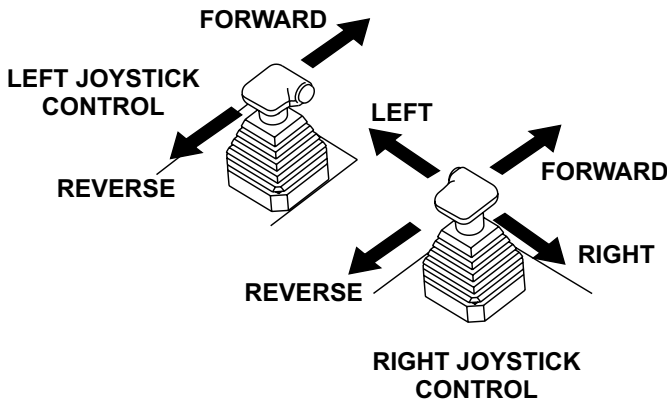

Figure 11. Left and Right Control Joysticks
Two joysticks (Figure 11) located to the left and right of the operator's seat provide directional control for the HHX Ride-On Power Trowel. Table 3 illustrates the various directional positions of the joysticks and their effect on the ride-on trowel.
- Push both the left and right Control Joysticks forward. See Figure 11.